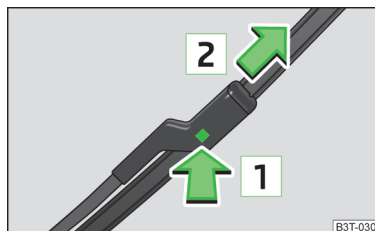

Fig. 194
- Hold the upper part of the wiper arm and unlock the securing mechanism **1** » Fig. 194.